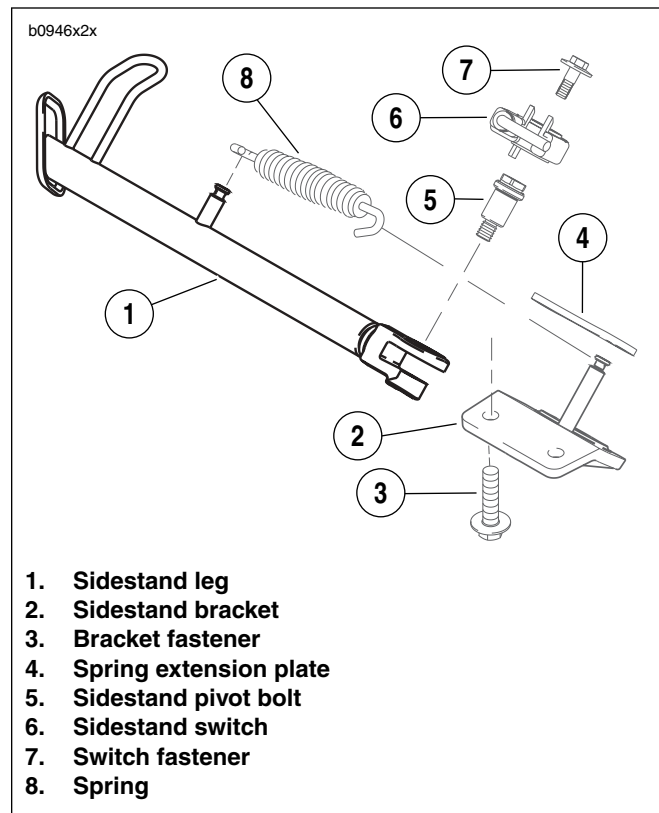

Figure 3. Sidestand Assembly
2. See Figure 3. Remove sidestand switch (6).
- a. Retract sidestand leg (1).
- b. Remove switch fastener (7).
- d. Lift sidestand switch and slide to the right away from spring post on sidestand bracket (2) and leave attached to harness.
3. Remove sidestand leg (1).
- b. Remove sidestand spring (8) and spring extension plate (4) using SNAP-ON SPRING TOOL (Part No. HE-52B).
- c. Remove sidestand pivot bolt (5).
- c. See Figure 3. Install sidestand (1) and sidestand pivot bolt (5) tightening to 18-20 ft-lbs (24-27 Nm).
- e. Install spring extension plate (4) and sidestand spring (8) using SNAP-ON SPRING TOOL (Part No. HE-52B).